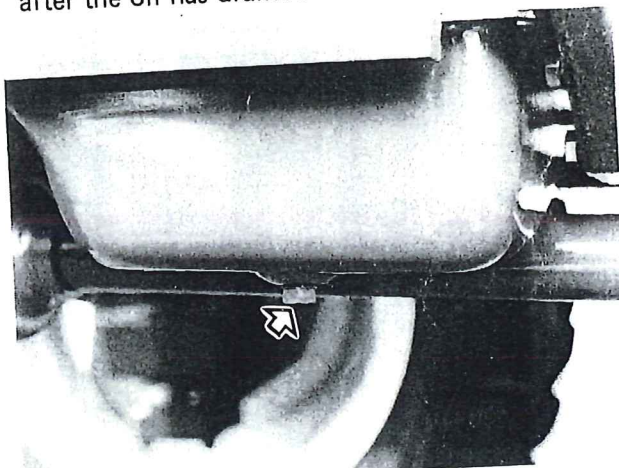

Figure 38 — Engine Oil Drain Plug
1. With the engine off, but at normal operating temperature, drain the engine oil by removing the drain plug, Figure 38. Reinstall the plug after the oil has drained and discard the oil.